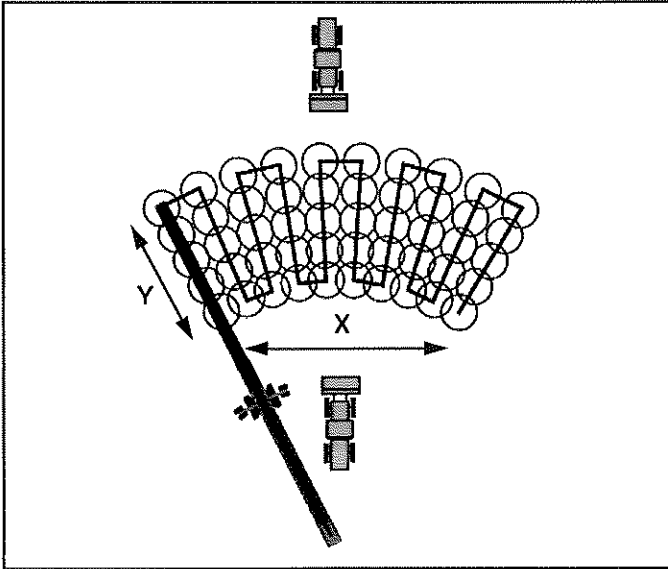

Figure 81
Once the parameters have been entered into the PLC and the conveyor is set to auto mode the conveyor program will build the pile in a series of conical piles similar to the configuration shown (**Figure 81**) until the pile reaches the maximum height requirement.
- When the X dimension is less than the Y dimension. The conveyor would be used more efficiently when covering material over a more narrow area (**Figure 81**).
- When the loader needs to reclaim the material from the back or front of the pile for a better blend of material (**Figure 81**).